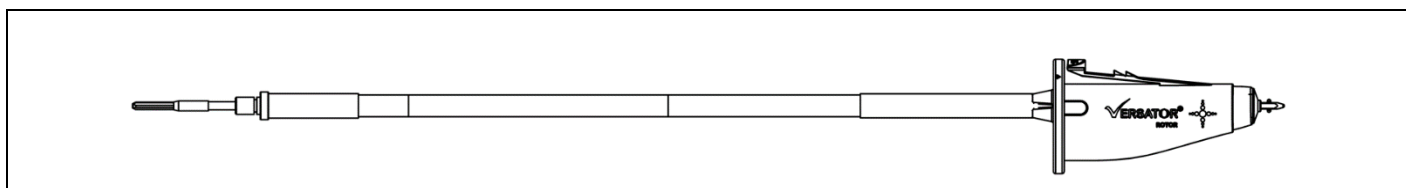

Figure 3: Straightening of Rotor Cable
- For rotor cable to function properly, it is imperative that it be straightened prior to use. To straighten, grasp the rotor at both ends and stretch it until flat as shown in figure 3. This will help remove any undesirable kinks in the rotor cable.